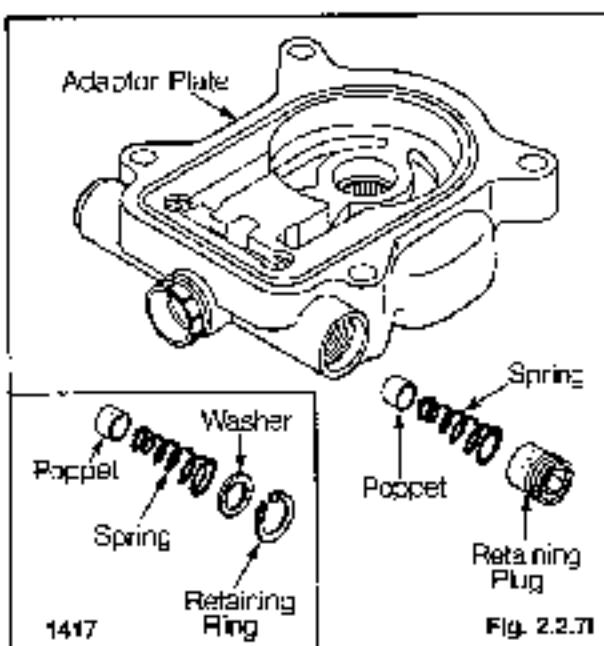

Fig. 2.2.7l
12. Install the charge pump relief valve in the adaptor plate (fig. 2.2.7l).